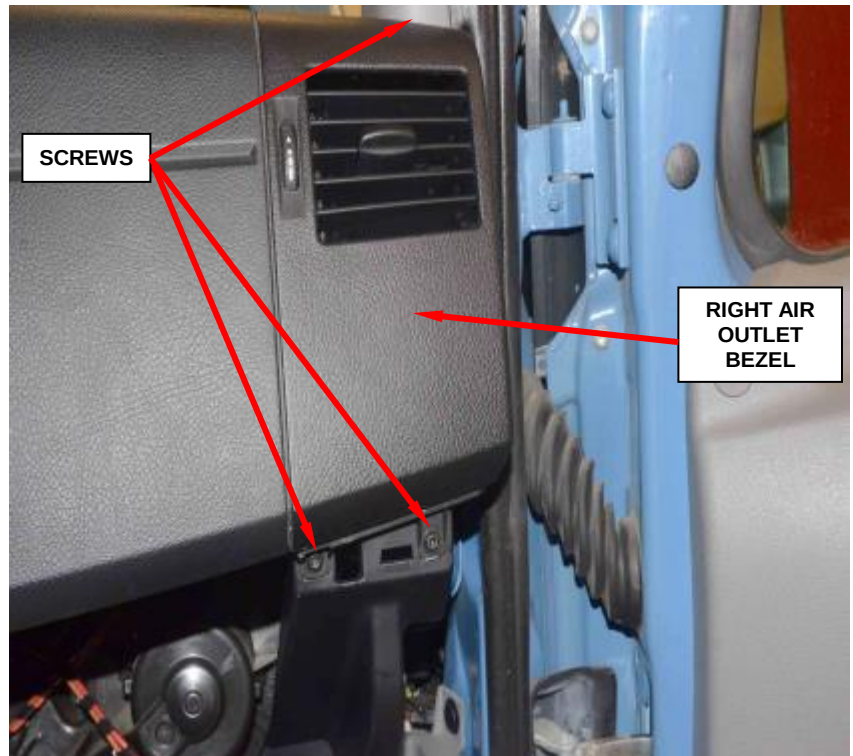

Figure 184 – Right Air Outlet Bezel
- c. Remove and save the four screws from the battery cover and remove the battery cover (Figure 184).
- d. Disconnect and isolate the battery negative cable(s). Wait two minutes for the system capacitor to discharge before further service (Figure 184).